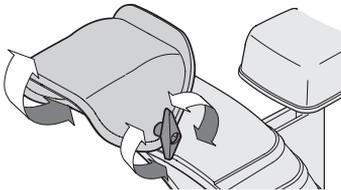

Figure 49
1. Loosen wing nut found on left side of the upper chute assembly (Figure 49).